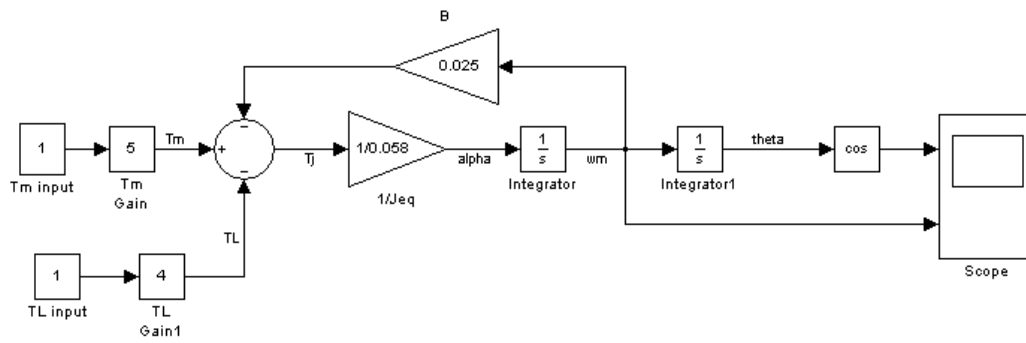

Figure 1.5: Simulation Model with Friction Included
- When you are finished changing the model it should look like Fig. 1.5